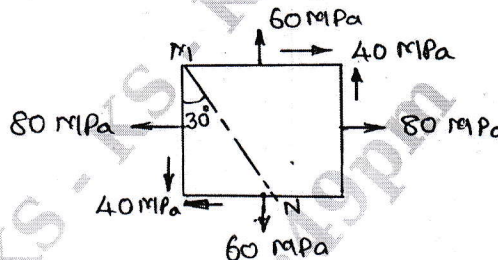

Fig.Q1(b)
- b. A point in a structural member subjected to plane stress is shown in Fig.Q1(b). Determine the following :